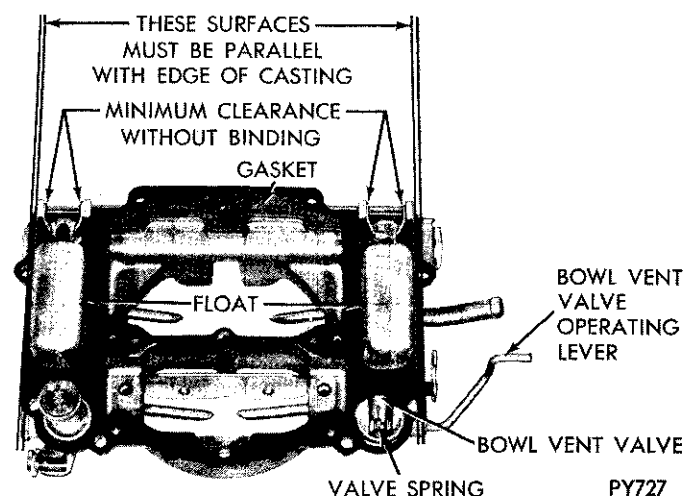

Fig. 8—Checking Float Alignment
(1) Sight down side of each float shell to determine if side of the float is parallel to outer cage of air horn casting, (Fig. 8).
(2) If sides of float are not in alignment with edge of casting, bend float lever by applying pressure to end of float shell with thumb. **To avoid damage to the float, apply only enough pressure to bend the float lever.**
(3) After aligning floats, remove as much clearance as possible between arms of float lever and lugs of air horn. To do this, bend float lever. The arms of float lever should be as parallel as possible to inner surfaces of lugs of casting.